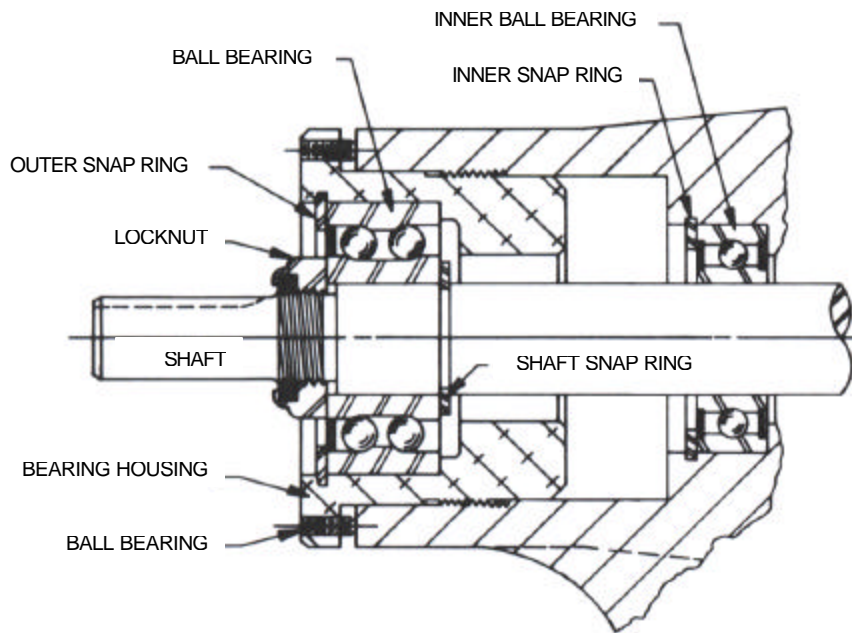

FIGURE 9 – THRUST BEARING ASSEMBLY GG, HJ and HL SIZES
6. Insert a brass bar or piece of hardwood in the port opening and between the rotor teeth to keep the shaft from turning. Turn the locknut counterclockwise and remove locknut. See Figure 9 or 10.
7. Loosen two setscrews in face of bearing housing and turn thrust bearing assembly counterwise and remove from casing. See Figure 9 or 10.
8. **GG, HJ, HL:** Remove snap ring from shaft. See Figure 9.
GG, HJ, HL: Remove outer snap ring from bearing housing and remove ball bearing. See Figure 9.
13. **GG, HJ, HL:** Install shaft snap ring in groove in the shaft. See Figure 9.
14. Pack lubrication chamber between inner ball bearing and double row ball bearing in the thrust bearing assembly approximately one-half full of multi-purpose grease, NLGI #2. The thrust bearing assembly will take the remaining space. See Figure 9 and 10.
GG, HJ, HL: Install ball bearing into bearing housing with shield side toward coupling end of shaft. See Figure 9. Install snap ring into bearing housing to retain ball bearing. This snap ring has a tapered edge to fit tapered groove in bearing housing. The tapered edge is located away from ball bearing.
See Figures 9 and 10.